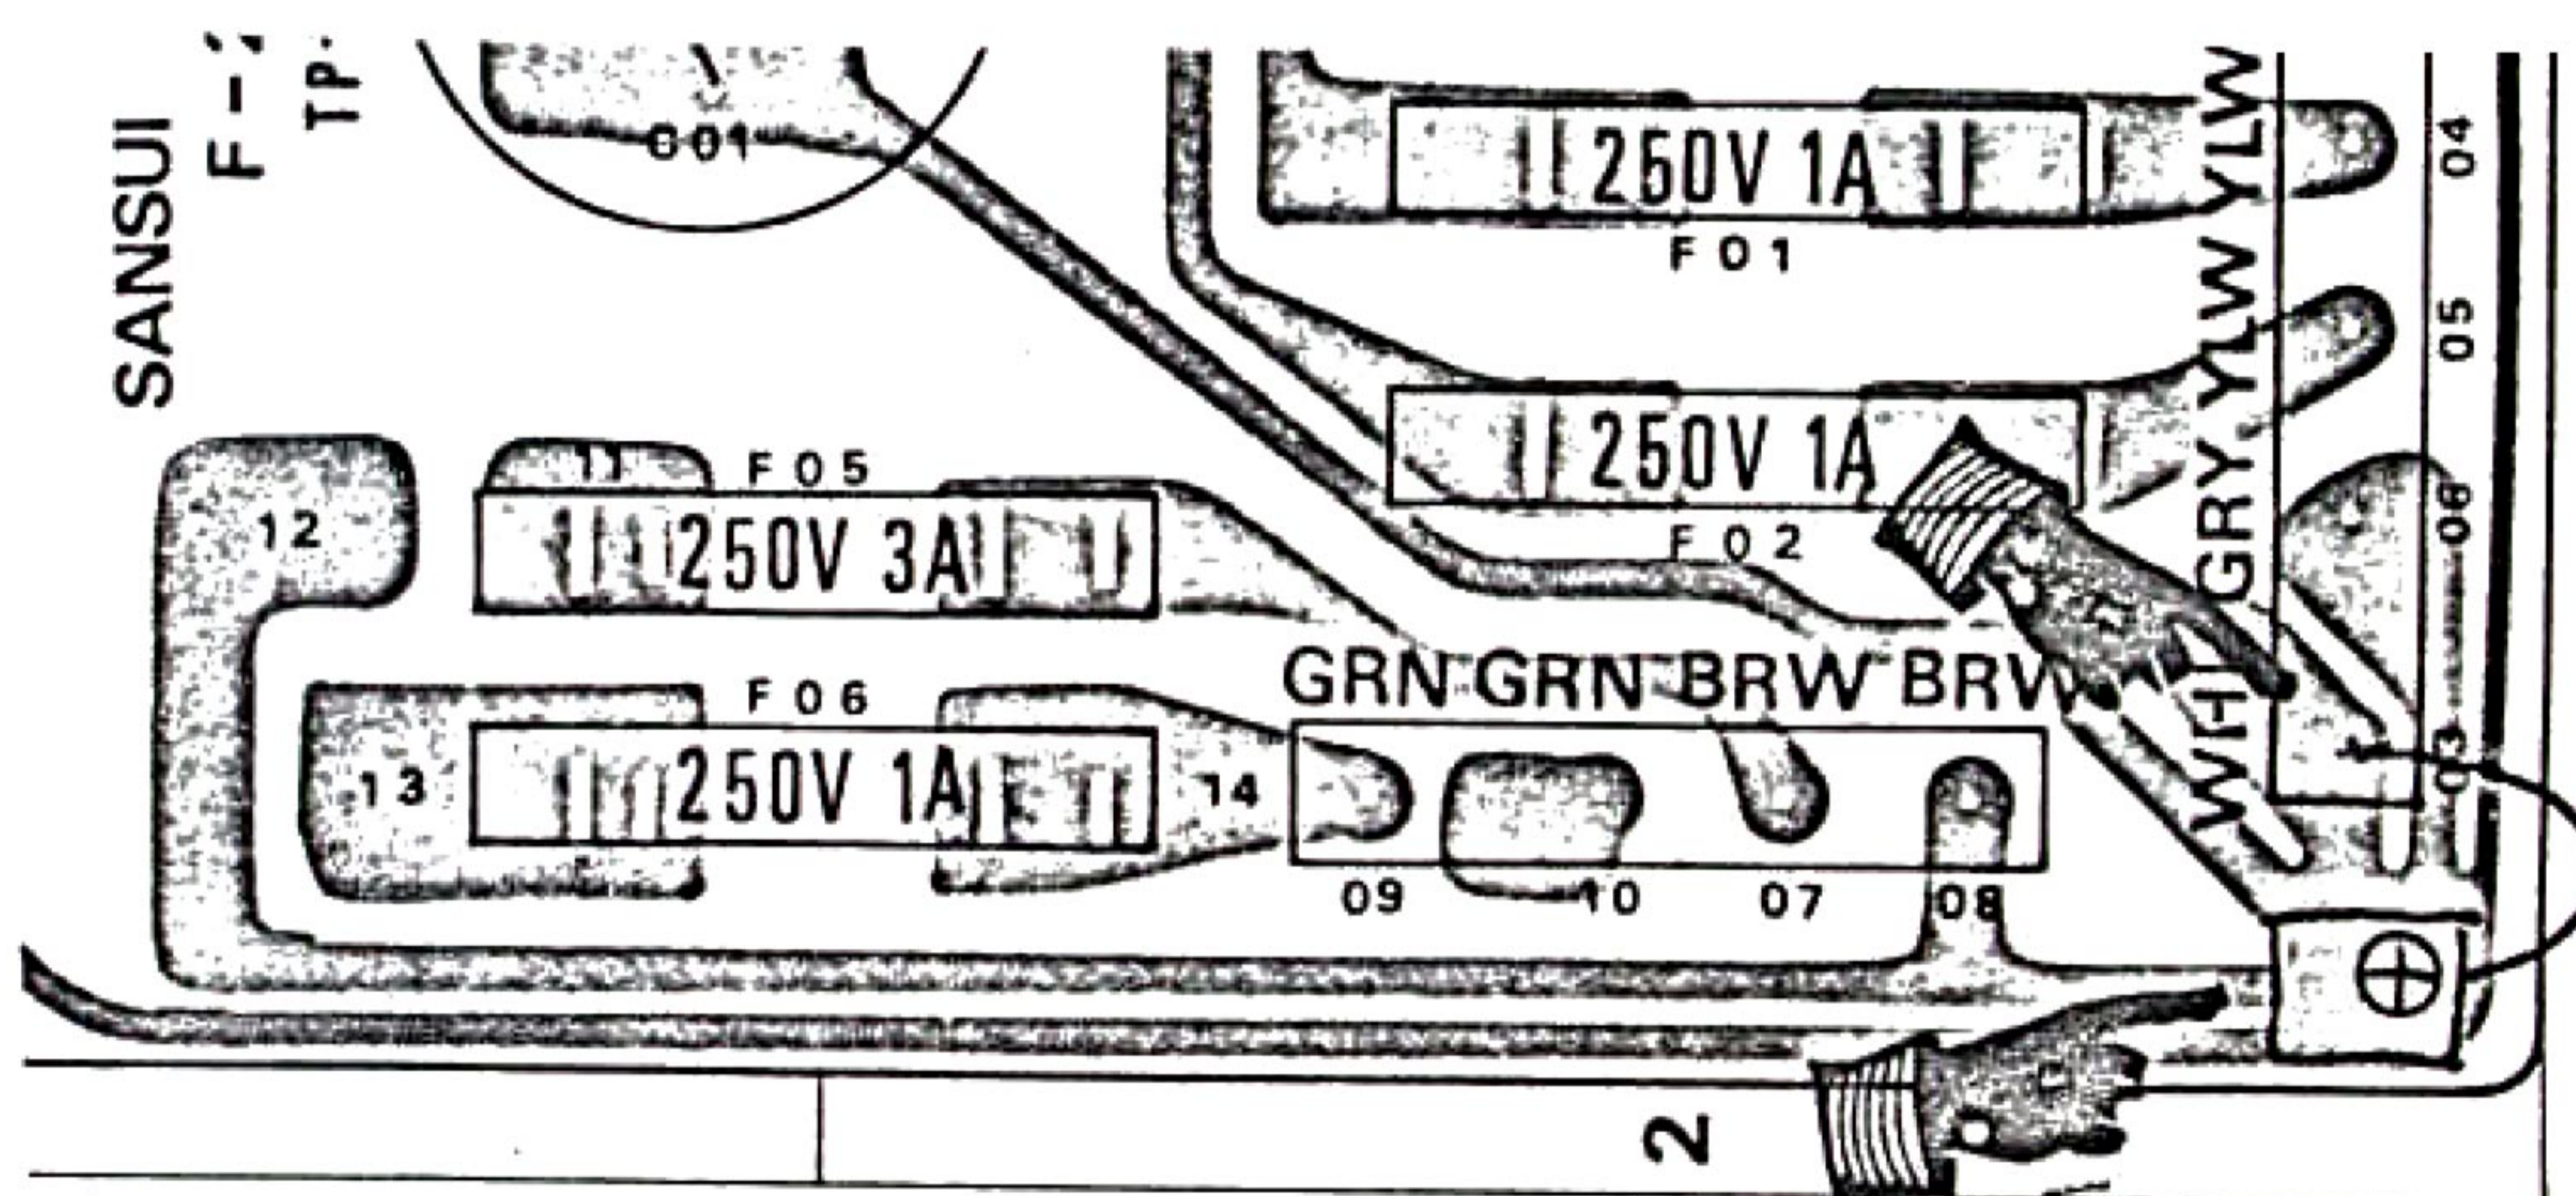

FIG. 2
3. The earth contact on P.C.B. F-2546 can be ameliorated by soldering a piece of mesh-lead or any piece of thick, well-conducting wire, from point 03 (or 06) to the adjacent earth lug, as shown in fig. 2.